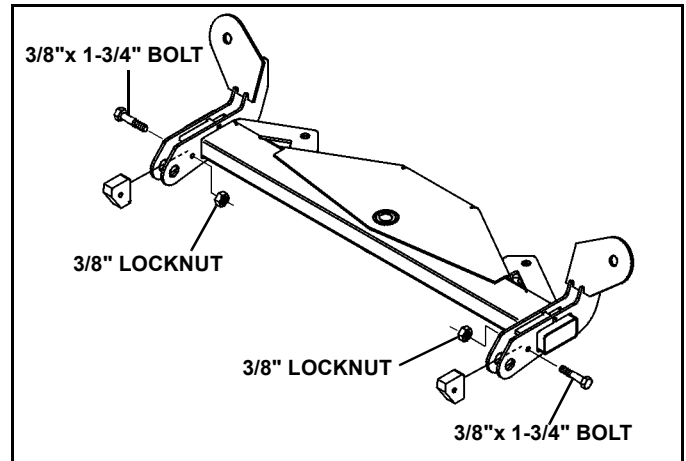

Figure 1-2
2. Place stops between the lugs on the swing frame. Secure with 3/8" x 1-3/4" bolts and locknuts. (See Figure 1-2). The bolts and nuts are in the blade parts bag.